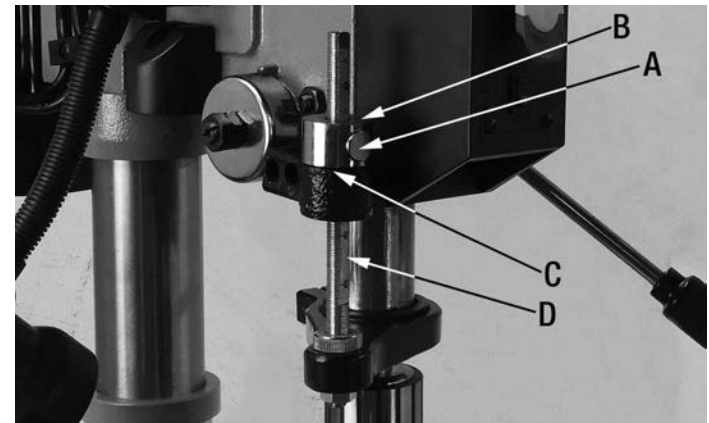

FIGURE 19
The depth stop mechanism Fig.19 allows repetitive drilling to an equal depth, to adjust the depth stop mechanism:
- 2) At the same time, push in the spring button (A) Fig.19 of the depth stop setting nut (B) and move it against the head casting (C). The depth stop scale (D) can also be used as a guide for setting the depth adjustment.